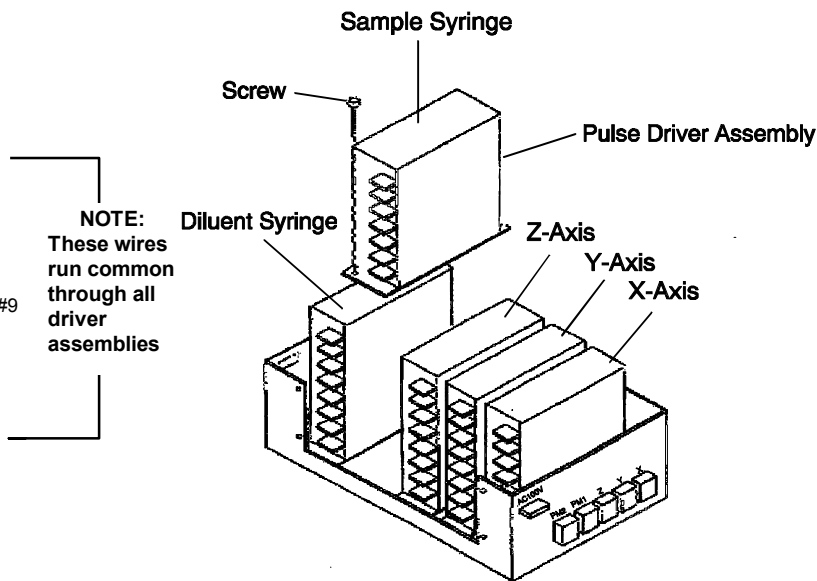

Figure 5-8. Pulse Driver Assembly Removal
| Figure 5-8. | Pulse Driver Assembly Removal | 5-8 |
2. Remove three screws securing the individual motor driver assembly to the base plate of the Pulse Motor Driver Unit as shown in Figure 5-8.